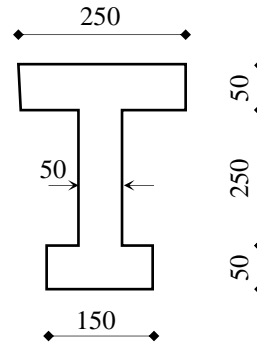

Fig. 3
- b) An I - section beam has a cross section as shown in figure 3. It carries a vertical shear force of 100kN. Calculate the shear stress at important points